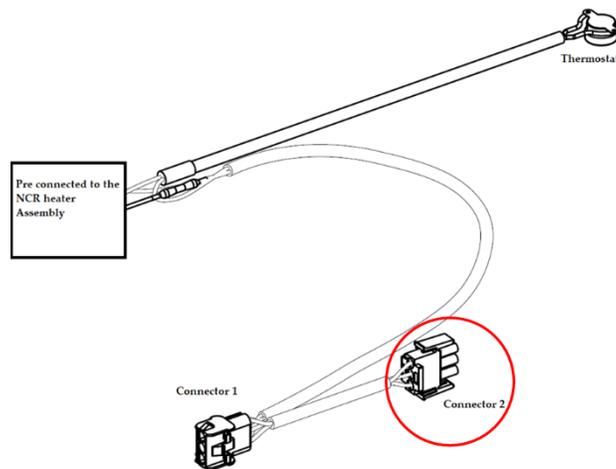
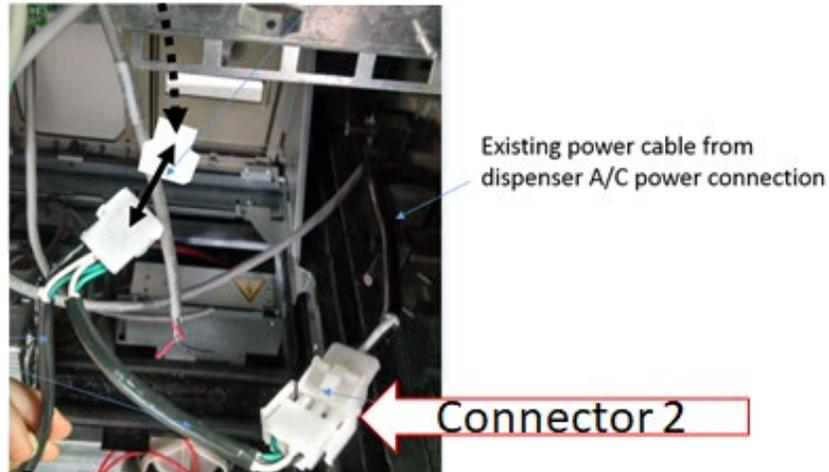

Figure 151
Figure 152
10) Affix Connector 2 (identified in Figure 151) to the existing dispenser A/C power cable as shown in Figure 152.